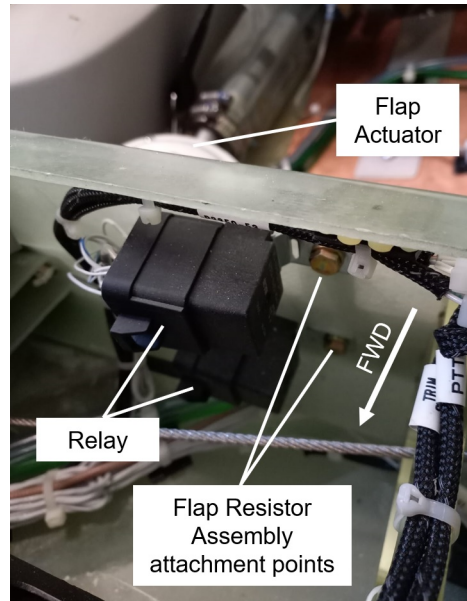
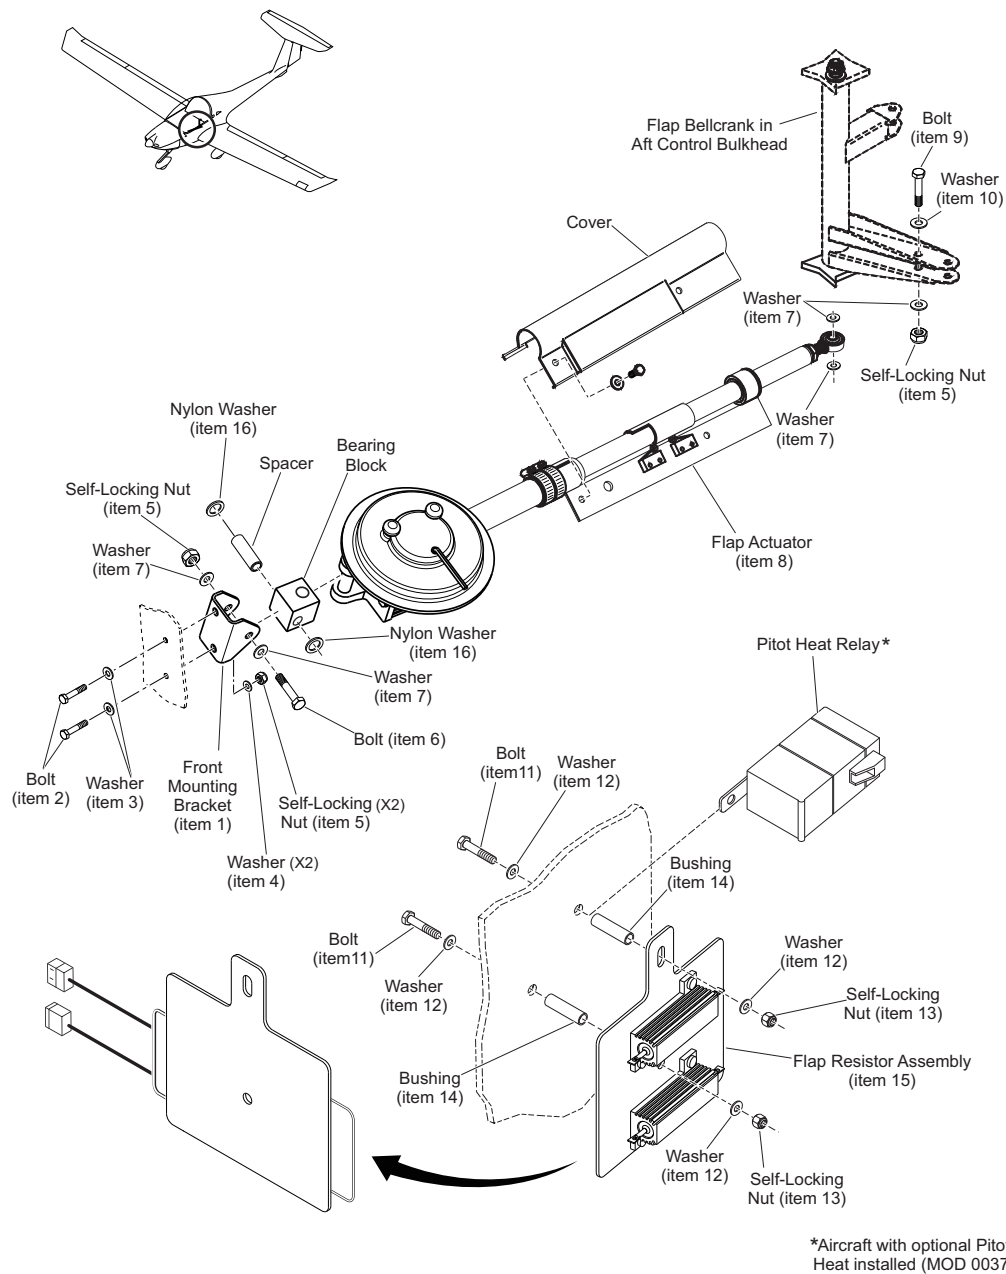

Figure 1. Flap resistor assembly attachment points (looking aft).
Figure 2. Flap actuator and flap resistor assembly installation
3. Remove the bearing block from the existing flap actuator. Refer to Figure 2.
4. Remove the bolts, washers and self-locking nuts which attach the front mounting bracket. Refer to Figure 2.
6. Make sure that the new front mounting bracket (item 1) will be installed on a flat surface of the composite.
7. Install the bolts (item 2), washers (items 3 and 4), and self-locking nuts (item 5) which attach the new front mounting bracket (item 1) to the aircraft. Refer to Figure 2.
8. Apply Aero Shell Grease 22 to the spacer and the bearing block. Refer to Figure 2.
9. Install the bearing block to the new flap actuator (item 8). Refer to Figure 2.
10. Put the spacer and the nylon washers (item 16) in the installation position. Refer to Figure 2.
11. Install the bolt (item 6), washers (item 7), and the self-locking nut (item 5) which attach the new flap actuator (item 8) to the new front mounting bracket (item 1). Refer to Figure 2.
12. At the aft control bulkhead, install the bolt (item 9), washers (items 10 and 7), and the self-locking nut (item 5) which attach the new flap actuator (item 8) to the flap bellcrank.
13. Identify the attachment points to install the flap resistor assembly (item 15). Remove the bolts, washers, and self-locking nuts of the attachment points. Refer to Figure 1.
NOTE: The attachment points of the flap resistor assembly attach two existing relays (Figure 1). If MOD 0037 Pitot Heat is installed, the upper attachment point attaches the pitot heat relay (Figure 2).
14. Install the bolts (item 11), washers (item 12), bushings (item 14) and self-locking nuts (item 13) which attach the flap resistor assembly (item 15), and the two relays (three relays if MOD 0037 Pitot Heat installed). Refer to Figures 1 and 2.
17. Install the flap actuator cover. Refer to Figure 2.